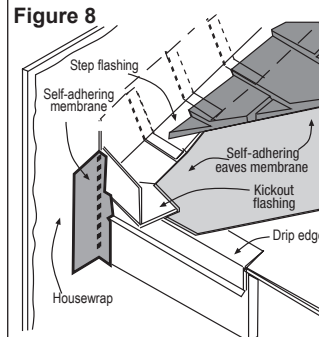

Figure 8
Figure 8, Kickout Flashing† To prevent water from dumping behind the siding and the end of the roof intersection, install a "kickout" as required by IRC code R905.2.8.3 : "...flashing shall be a min. of 4" high and 4" wide." James Hardie recommends the kickout be angled between 100° - 110° to maximize water deflection
* The illustration (figure 8) was reprinted with permission of THE JOURNAL OF LIGHT CONSTRUCTION. For subscription information, visit www.jlconline.com.